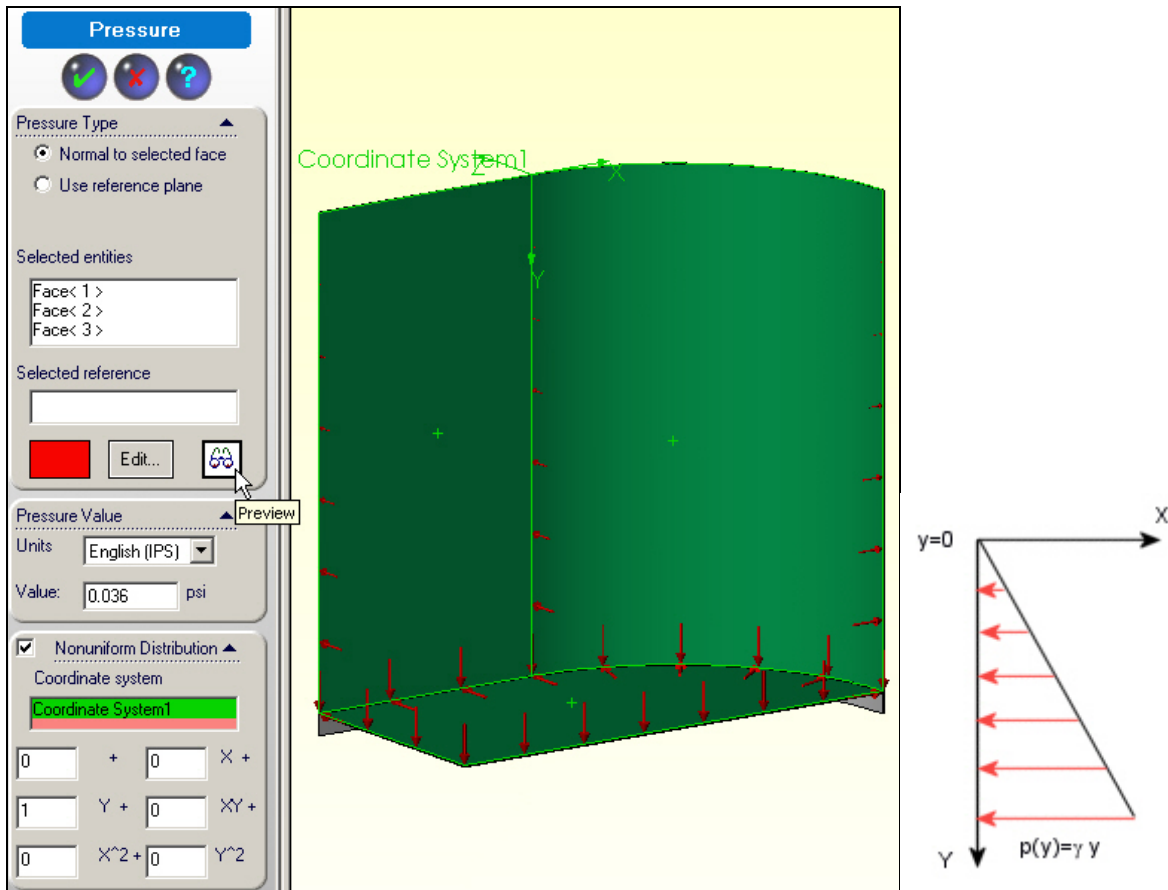

Figure 21 Hydrostatic pressures via a local coordinate system
5. As shown in Figure 21, select the **Pressure Value Units** as psi (English).